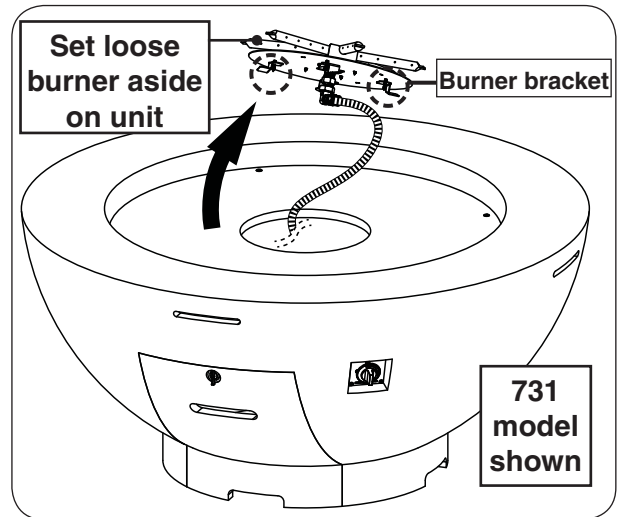

Fig. 22-1 Place unit and remove burner assembly
1. **CAREFULLY** place the base in an appropriate location (see Fig. 22-1, and refer back to the LOCATION section if needed).
2. Use a  $\frac{5}{16}$ " nut driver to partially unfasten the four screws found on the burner assembly. Then carefully remove the burner and set it off to the side. See Fig. 22-1.